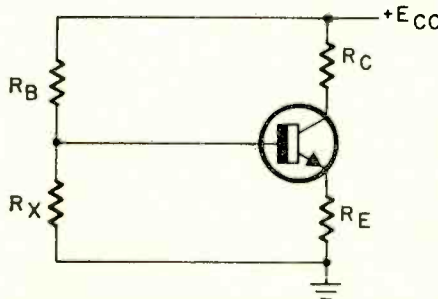
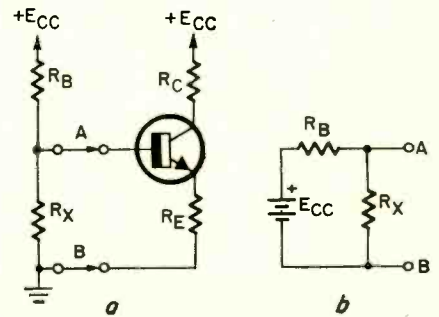

FIG. 10—A SECOND BIAS arrangement designed for improved stability.
FIG. 11—THEVENIN EQUIVALENT of the bias arrangement shown in Fig. 10.
If we take the circuit in Fig. 9 and add resistor R_X from the base to ground, the more complex but more stable circuit of Fig. 10 evolves. To a first approximation, R_X is usually specified at less than ten times the size of R_B .
To analyze this circuit, the simple but extremely useful Thevenin's theorem must be used. By applying this theorem, any linear complex circuit consisting of a voltage source and a passive network can be reduced to an equivalent series combination of a voltage source and a series resistor. This can be done in a few easy steps. For an example of the procedure, let's Thevenize the circuit in Fig. 10. Follow the procedure using Fig. 11.
1. Separate the supply circuit from the load circuit. In Fig. 11-a, this means breaking the circuit at A—B. Redraw the circuit to the left of A—B as shown in Fig. 11-b.
4. Draw the complete Thevenin equivalent circuit. For the bias network in Fig. 11, it is shown in Fig. 11-c.
A common variation of the circuit in Fig. 10 involves adding a second power supply connected to the bottom of R_X . The circuit is shown in Fig. 13. Here, in addition to the Thevenin equivalent circuit, the superposition prin-